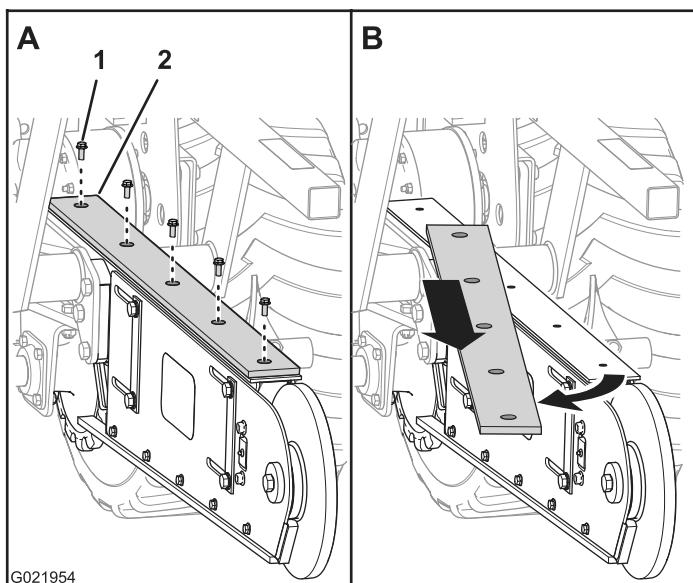

Figure 39
3. Remove the 5 bolts that secure the wear strip to the top of the boom (Figure 39).
4. Remove the wear strip (Figure 39).
7. Align the holes of the new wear strip with the holes in the top of the boom (Figure 39).
8. Secure the wear strip to the top of the boom with the bolts that you previously removed (Figure 39).